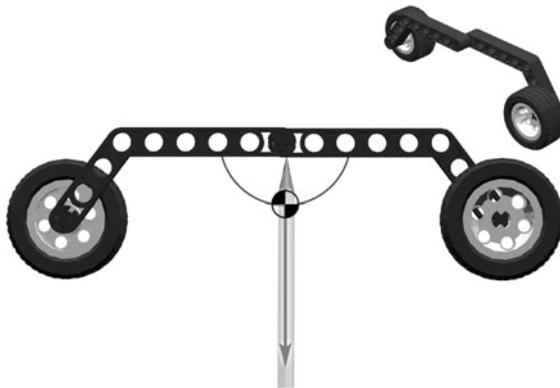

Fig. 6-2. Better balance.
**Try This:** Figure 6-2 shows a machine that uses gravity control to keep it stable, balanced on the tip of our previous pencil. Of course, you could also tape two pencils together in an upside-down “V” shape (like “Λ”) and balance that instead. When this machine tips left or right the center of gravity rises and is accelerated back down until it is directly under the pivot point.
*Negative feedback* was illustrated by the device in Fig. 6-2. A small disturbance (tipping) creates an automatic force in the other direction, resisting the tipping. The system will *oscillate*, or wobble, back and forth until the energy put into the system is lost as heat. Feedback or, more specifically, negative feedback, is important for many if not most automatic systems.